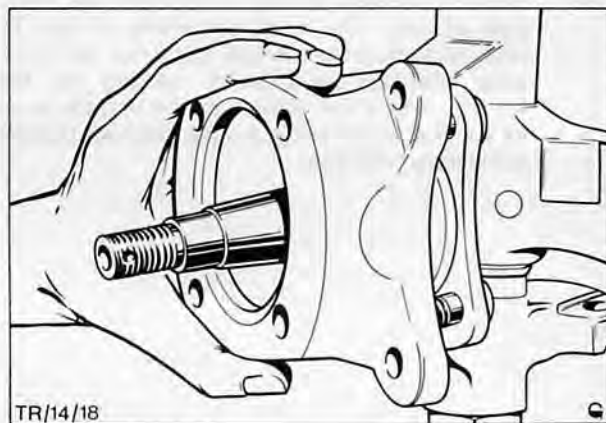

Fig. 18. Replacing caliper mounting spacer
27. Refit caliper mounting spacer. Clean spindle. Renew grease retainer if damaged, Fig. 18.